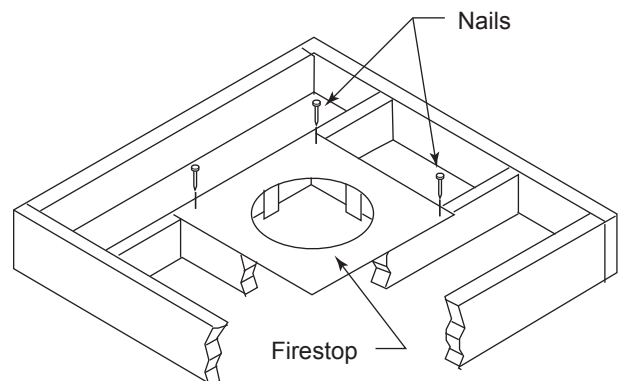
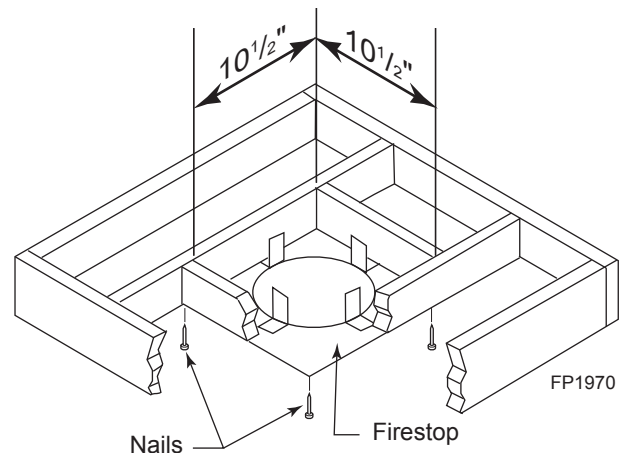

Figure 23 - If Area Above is a Room, Install Firestop above Framed Hole as Shown
Figure 24 - If Area Above is Not a Room, Install Firestop below Framed Hole as Shown
1. Cut a 10½" (241 mm) square hole in the ceiling using the locating hole as a center point. The opening should be framed to 10½" x 10½" (241 x 241 mm) inside dimensions as shown in Figure 24 using framing lumber the same size as the ceiling joist. If the area above the ceiling is an insulated ceiling or a room, nail firestop from the top side. This prevents loose insulation from falling into the required clearance space. Figure 23. Otherwise, install firestop below the framed hole. Figure 24